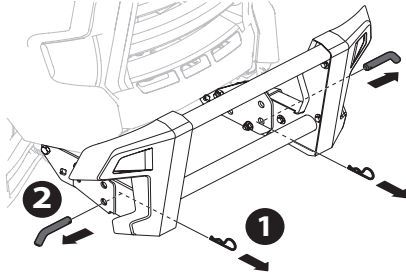

Fig. 61
1. Remove two cotter pins, and then pull the pins (Fig. 61).